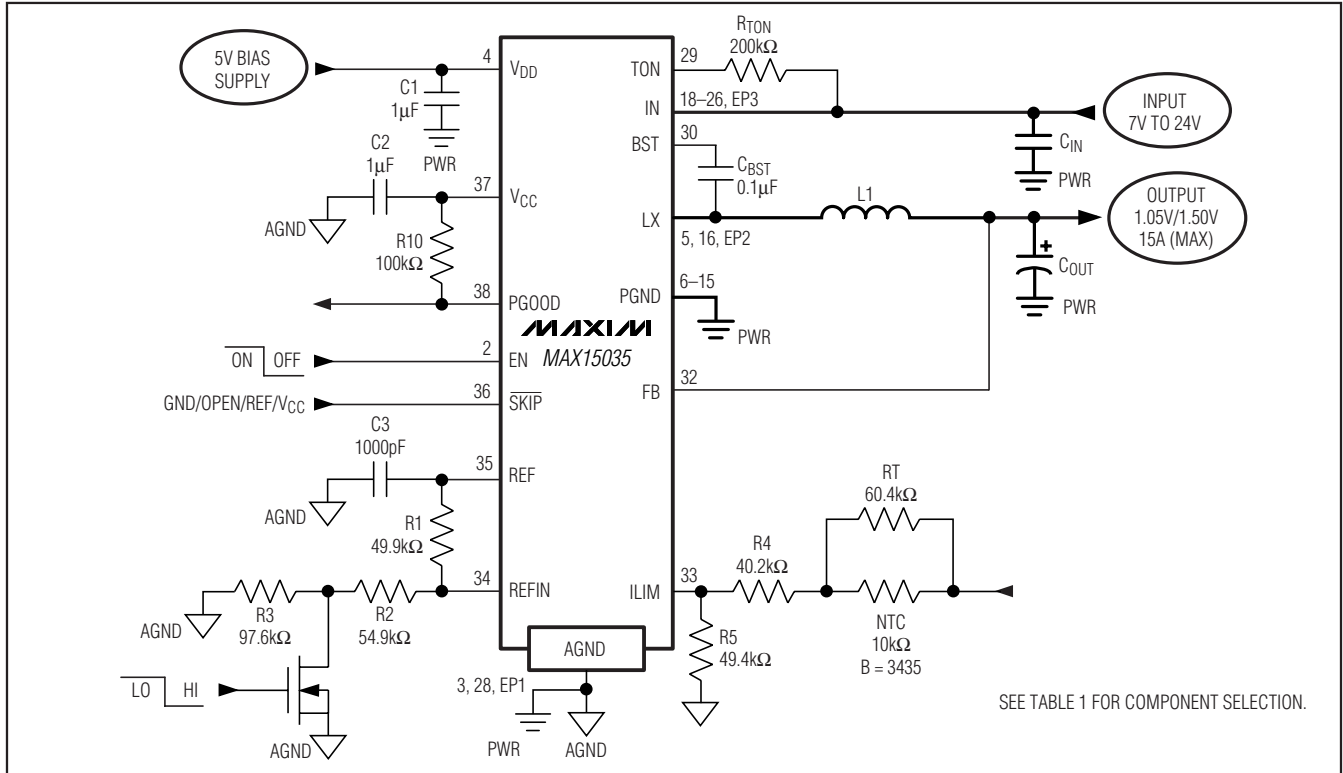
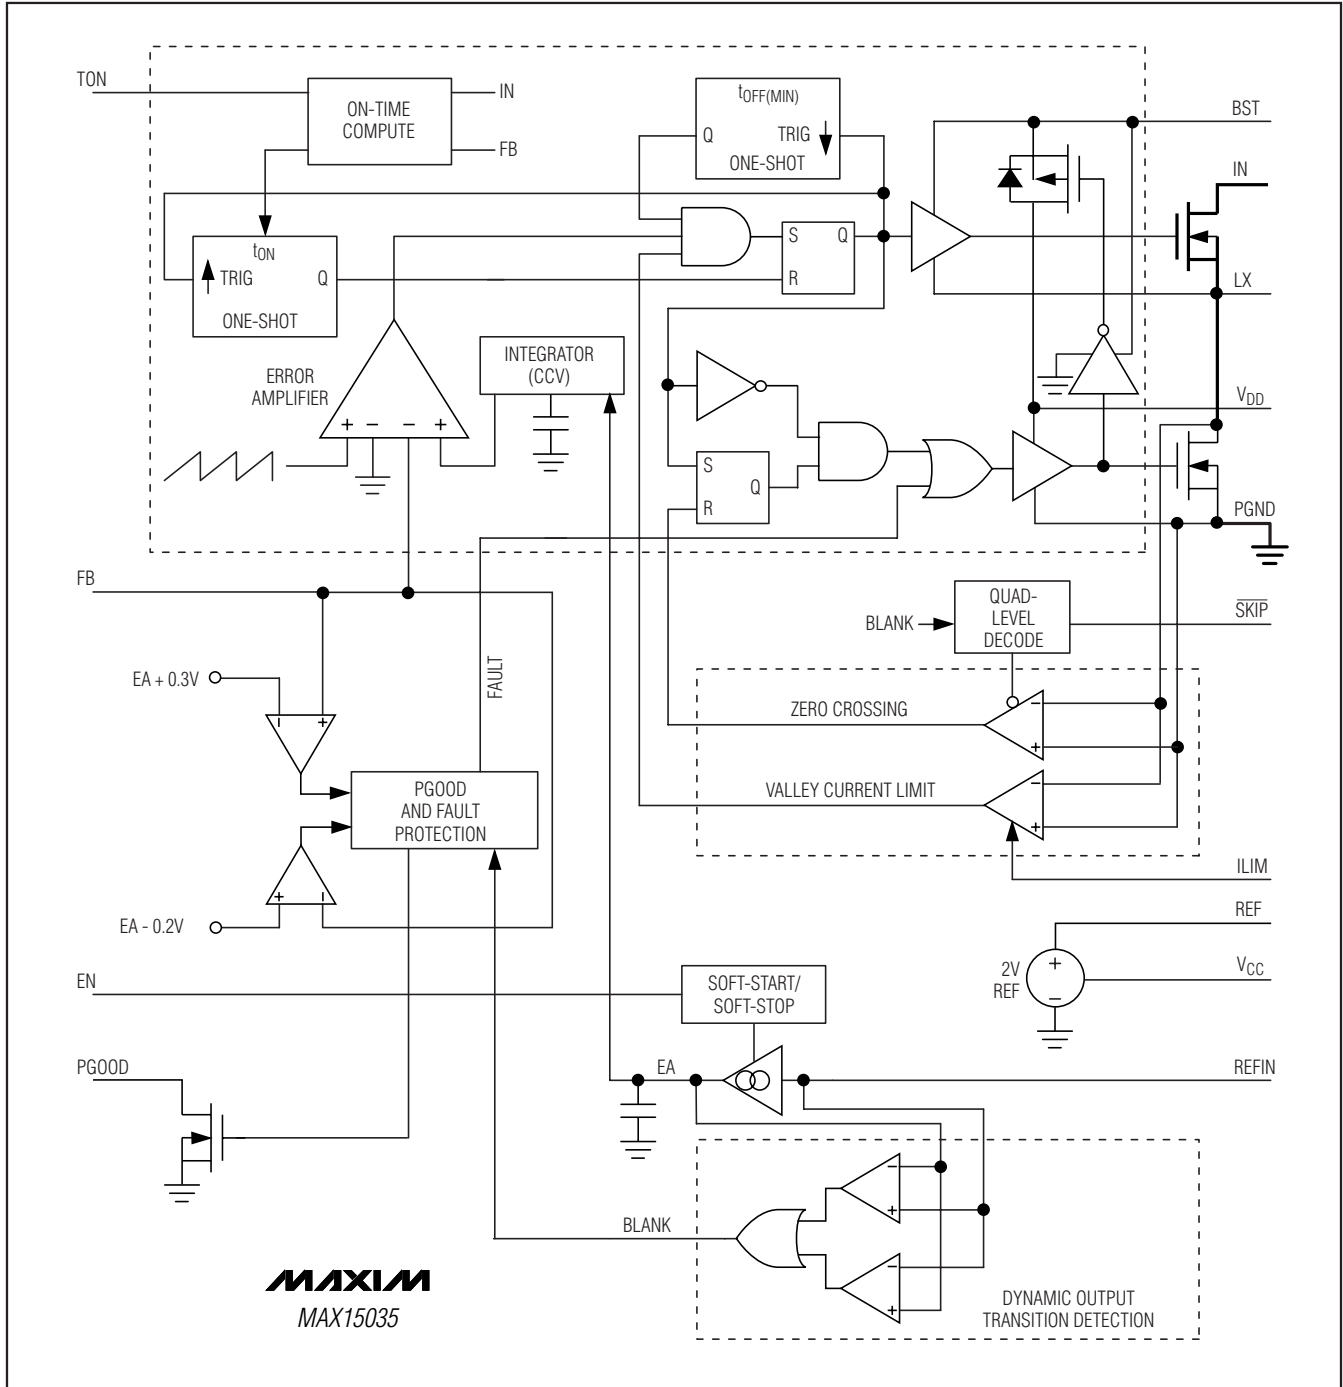

Figure 1. MAX15035 Standard Application Circuit
Figure 2. MAX15035 Block Diagram
(MAX15035 Circuit of Figure 1, $V_{IN} = 12V$, $V_{DD} = 5V$, $\overline{SKIP} = GND$, $R_{TON} = 200k\Omega$, $T_A = +25^\circ C$, unless otherwise noted.)
| 5, 16 | LX | Inductor Connection. Internally connected to EP2. Connect LX to the switched side of the inductor as shown in Figure 1. |
| 30 | BST | Boost Flying Capacitor Connection. Connect to an external 0.1 μF capacitor as shown in Figure 1. The MAX15035 contains an internal boost switch/diode (Figure 2). |
| 32 | FB | Feedback Voltage Sense Connection. Connect directly to the positive terminal of the output capacitors for output voltages less than 2V as shown in Figure 1. For fixed-output voltages greater than 2V, connect REFIN to REF and use a resistive divider to set the output voltage (Figure 6). FB senses the output voltage to determine the on-time for the high-side switching MOSFET. |
| EP2 (42) | LX | Exposed Pad 2/Inductor Connection. Internally connected to drain of the low-side MOSFET and source of the high-side MOSFET (Figure 2). Connect LX to the switched side of the inductor as shown in Figure 1. |
| EP3 (43) | IN | Exposed Pad 3/Power MOSFET Input Power Source. Internally connected to drain of the high-side MOSFET (Figure 2). |
| COMPONENT | V _{OUT} = 1.5V/1.05V AT 15A (FIGURE 1) | V _{OUT} = 3.3V AT 6A (FIGURE 6) | V _{OUT} = 1.5V/1.05V AT 10A (FIGURE 1) |
The MAX15035 standard application circuit (Figure 1) generates a 1.5V or 1.05V output rail for general-purpose use. See Table 1 for component selections. Table 2 lists the component suppliers.
The Quick-PWM control architecture is a pseudo-fixed-frequency, constant on-time, current-mode regulator with voltage feed-forward (Figure 2). This architecture relies on the output filter capacitor's ESR to act as a current-sense resistor, so the output ripple voltage provides the PWM ramp signal. The control algorithm is simple: the high-side switch on-time is determined solely by a one-shot whose pulse width is inversely proportional to input voltage and directly proportional to output voltage. Another one-shot sets a minimum off-time (200ns typ). The on-time one-shot is triggered if the error comparator is low, the low-side switch current is below the valley current-limit threshold, and the minimum off-time one-shot has timed out.
The MAX15035 regulates FB to the voltage set at REFIN. By changing the voltage at REFIN (Figure 1), the MAX15035 can be used in applications that require dynamic output-voltage changes between two set points. For a step-voltage change at REFIN, the rate of change of the output voltage is limited either by the internal 9.45mV/ μ s slew-rate circuit or by the component selection—inductor current ramp, the total output capacitance, the current limit, and the load during the transition—whichever is slower. The total output capacitance determines how much current is needed to change the output voltage, while the inductor limits the current ramp rate. Additional load current may slow down the output voltage change during a positive REFIN voltage change, and may speed up the output voltage change during a negative REFIN voltage change.